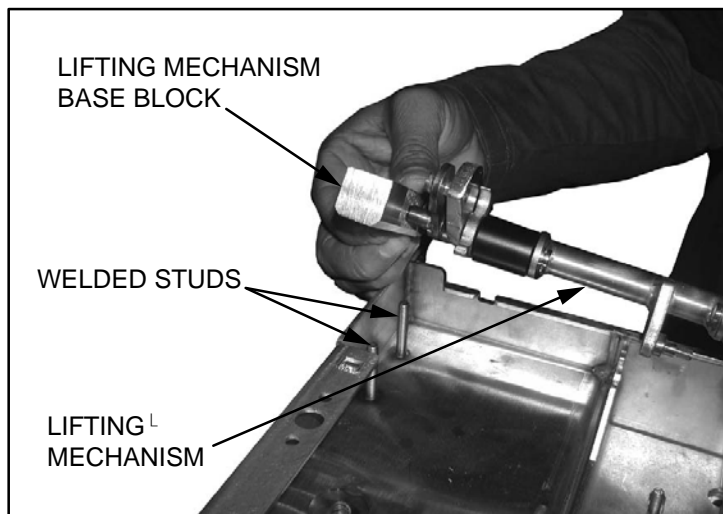

FIGURE 4-10: LIFTING MECHANISM INSTALLATION
- Refer to **Figure 4-10**. Guide and align lifting mechanism base blocks onto two welded studs, located on right and left sides of front enclosure.